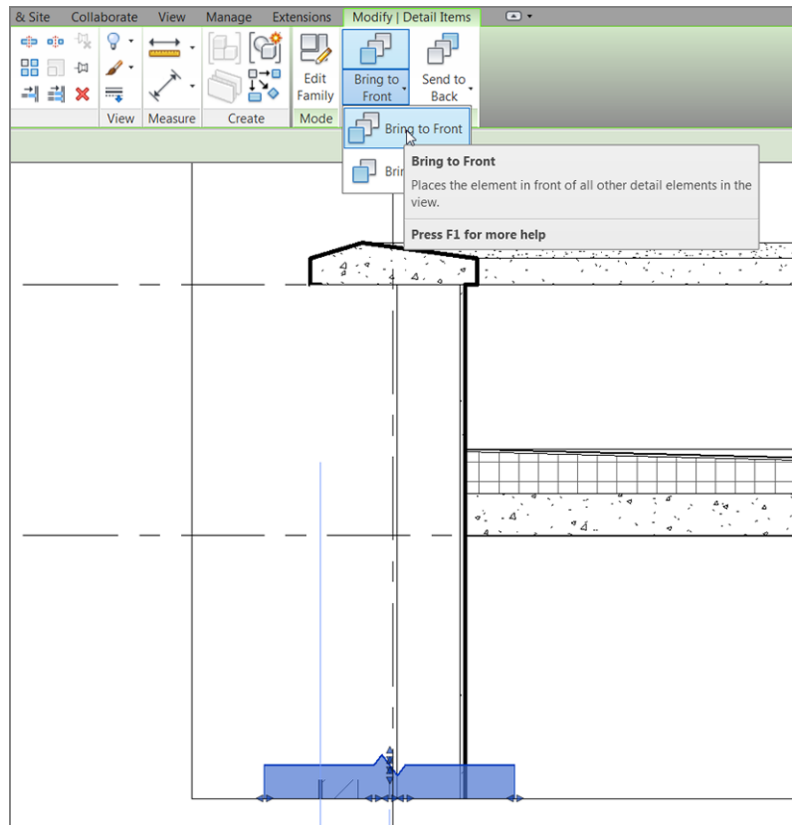

FIGURE 12.6: Click the Bring To Front button on the Modify | Detail Items tab after selecting the break line.
1. If the break line is behind the masking region, select the break line, as shown in Figure 12.6.
2. On the Modify | Detail Items tab, click the Bring To Front button (see Figure 12.6).